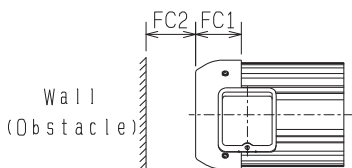

Fig.5 Dimension of the wall-to-fan cover
- (1) There is mounting compatible, but the total length will be longer. When installation, please check the interference of surrounding devices. Also, consider ventilation for the motor cooling, please keep a distance between the fan cover and the wall, as in Figure 5. Dimensions FC2 is minimum dimensions of the wall-to-fan cover in consideration of ventilation for motor cooling, however, we recommend to set the wall-to-fan distance so that when conducting brake maintenance or etc, the fan cover can be removed.
- (2) Please reconsiders the design of the wiring equipment of the breakers and etc since starting current may increase.
- (3) Since the rotation speed may increase and the power consumption increase, please consider the necessity of countermeasures such as setting the rotational speed of the load machine to the same as previous one by changing the sprocket ratio or the output frequency of the inverter.
- (4) Please reconsider the acceptable number of starts and the acceptable number of starts per hour, since moment of inertia may increase.
- (5) When using non-brake geared motors, period of free-run may be longer. Also, when it comes to brake-in geared motors, especially when simultaneous braking method, brake holding period may be longer. Therefore according to necessity, please adopt separated braking method or Direct current (quick) braking method.